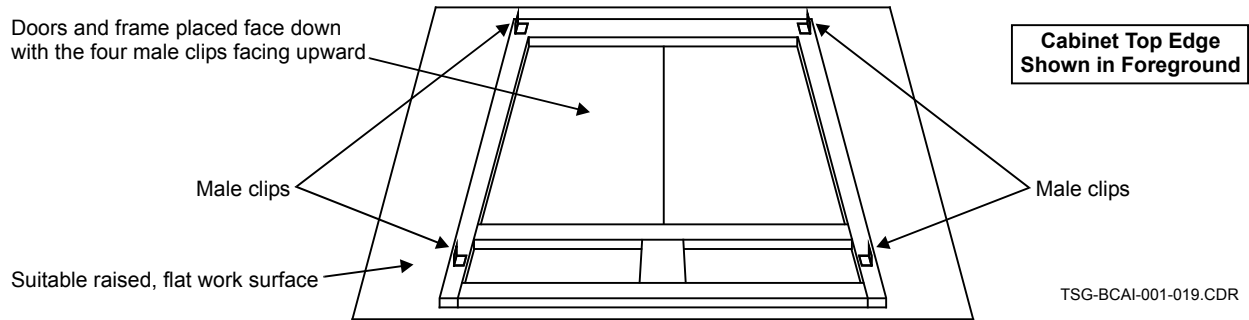

Figure 3 — Doors and Frame with Four Male Clips Facing Upward
- (1) Referring to Figure 3, on a suitable raised, flat work surface, place the doors and frame face down with the four male clips facing upward.